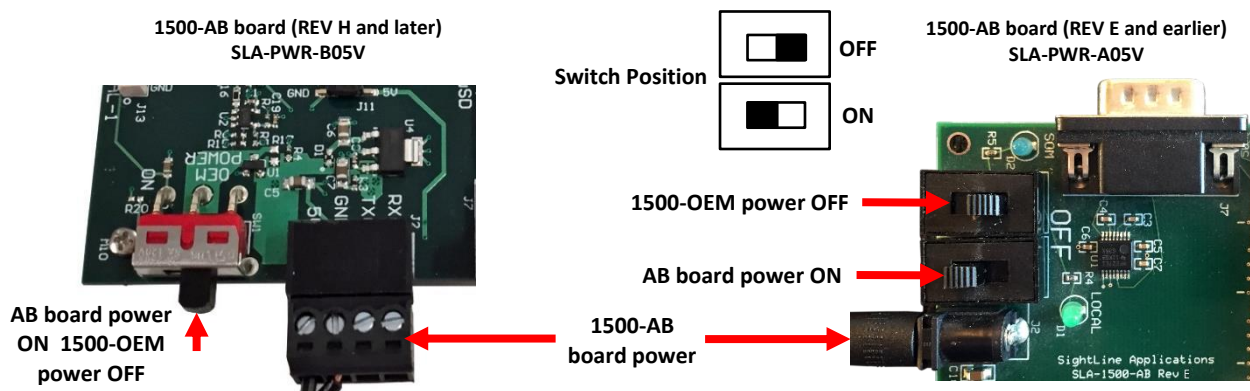

Figure 2: 1500-AB Board Power Connections
REV H and later 1500-AB boards have a single power switch. REV E and earlier boards have a dual power switch. REV H and later boards are immediately powered on when power is connected. If using the 1500-AB board in a bench setup, review Figure 1 and Figure 2 prior to making power connections.
- ⚠ CAUTION:** DO NOT power up the 1500-OEM board from the 1500-AB interface board. The power switches should be set to the positions shown in Figure 2 (AB board power ON / 1500-OEM power OFF). Long term over powering will permanently damage the 1500-OEM board.
**IMPORTANT:** Do not apply power to the 1500-OEM board from the 1500-AB board (see Figure 2).